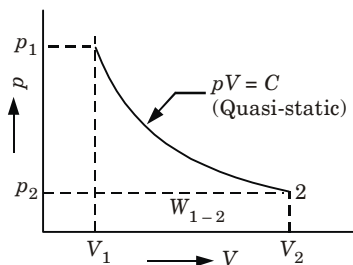

Fig. 1.19.3. Process in which $pV = \text{Constant}$.
3. Constant temperature process (Isothermal process) ($pV = C$) (Fig. 1.19.3)